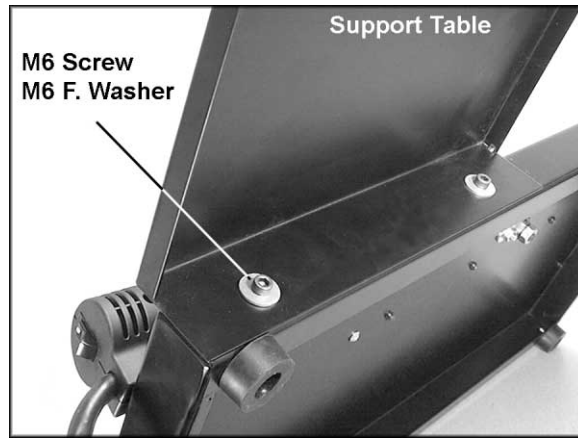

Figure 1
1. Tilt the Edge Bander up and attach the support table to the two holes at the rear of the Edge Bander, with two M6 x 10 socket head cap screws and two M6 flat washers. See Figure 1. Tighten with the 5mm hex wrench.